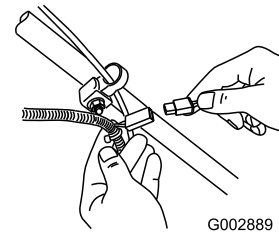

Figure 25
1. Connect the charger to the wire harness located below the ignition key (Figure 25).